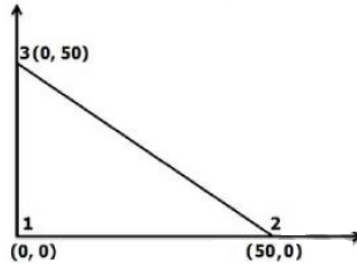

Figure 3
6. Determine the stiffness matrix for the axisymmetric element shown in figure 3 take  $E = 2.1 \times 10^6 \text{ N/mm}^2$  and Poisson's ratio as 0.3. All dimensions are in mm. [15]